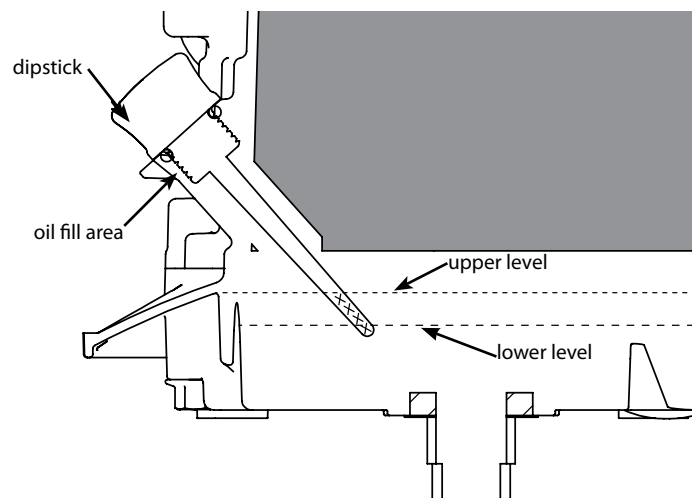

Figure 6: Filling and changing oil
2. Remove dipstick and carefully tip the engine toward the dipstick side to empty oil from oil fill area. Empty oil into a suitable oil container and dispose of oil properly. **SEE FIGURE 6.**
3. Tip engine back onto a level surface and fill with appropriate oil to the top of the marking on the dipstick. **SEE FIGURE 6.**
4. Reinsert dipstick and tighten. **SEE FIGURE 6.**